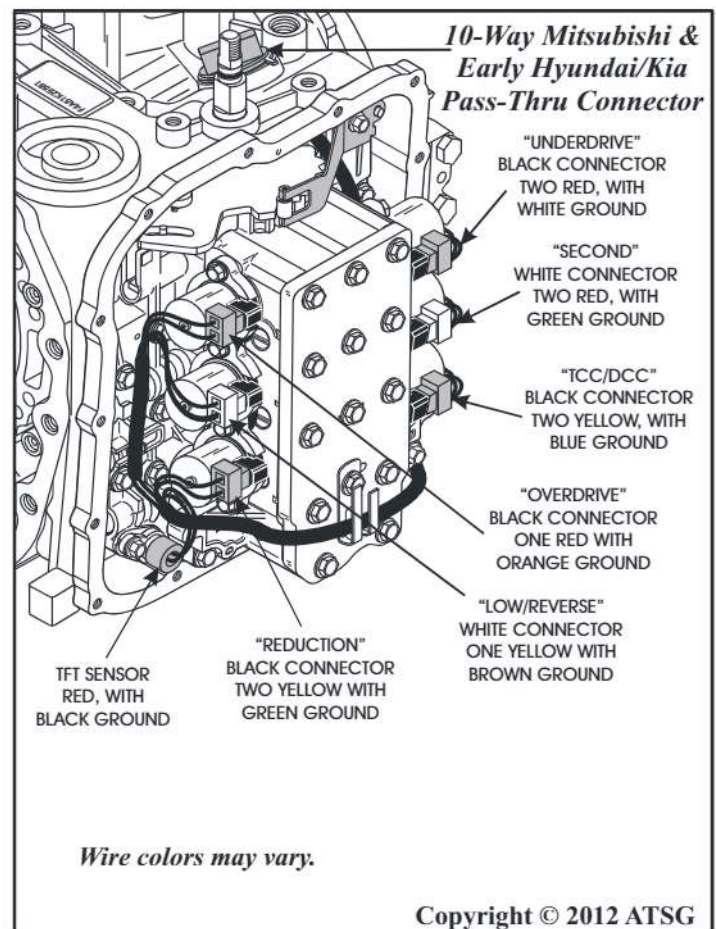

Figure 52
2. Disconnect the shift solenoid connectors and the fluid temperature sensor connector, as shown in Figure 52.
Note: The Mitsubishi and early Hyundai/Kia version is illustrated in Figure 52. 2007-Up Hyundai and 2006-Up Kia versions have one extra line pressure solenoid and are illustrated in Figure 53.